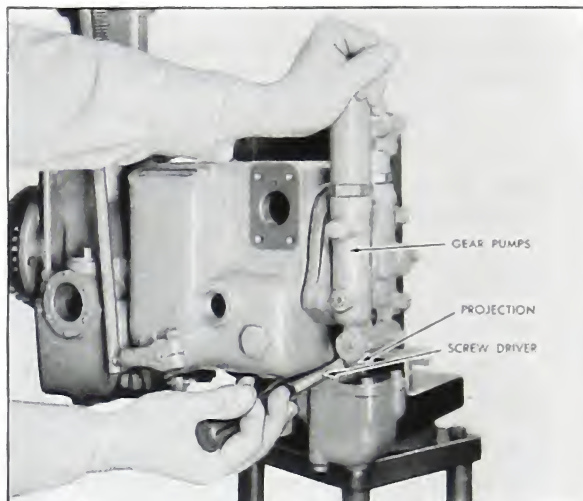

Fig. 5-6. Removing gear pumps
3. Pry the gear pump assembly from the dowel pin and, while holding to the pressure chamber and the idling control lever, pull the gear pump assembly from the main housing. Fig. 5-6.